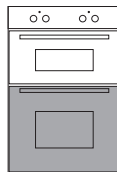

Figure 7b
Bottom main oven: Assemble the wire racks on the oven walls using the 2 screws interposing the catalytic panels "A" with the arrow up (fig. 7b). The catalytic panel with the hole for the side oven lamp must be positioned on the left oven wall. DO NOT INTERPOSE THE CATALYTIC PANEL WITHOUT THE HOLE ON THE LEFT OVEN WALL.
- Screw the side racks onto the oven wall interposing the catalytic panels (fig. 7b).